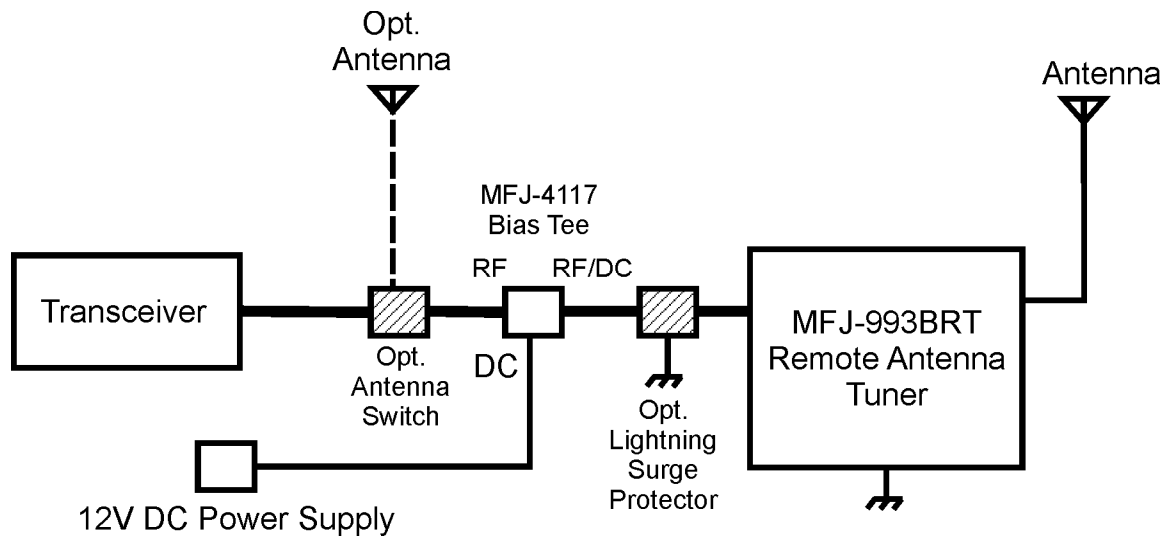

Figure 1: Basic Connections
3. Connect the tuner to the transceiver, the amplifier, the MFJ-4117 Bias Tee (note the orientation of the Bias TEE) and the antenna with 50-ohm coaxial cables capable of handling the RF power levels expected. See Figure 1 .